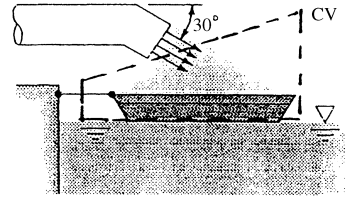

Fig. P3.70
**3.70** The dredger in Fig. P3.70 is loading sand (SG = 2.6) onto a barge. The sand leaves the dredger pipe at 4 ft/s with a weight flux of 850 lbf/s. Estimate the tension on the mooring line caused by this loading process.